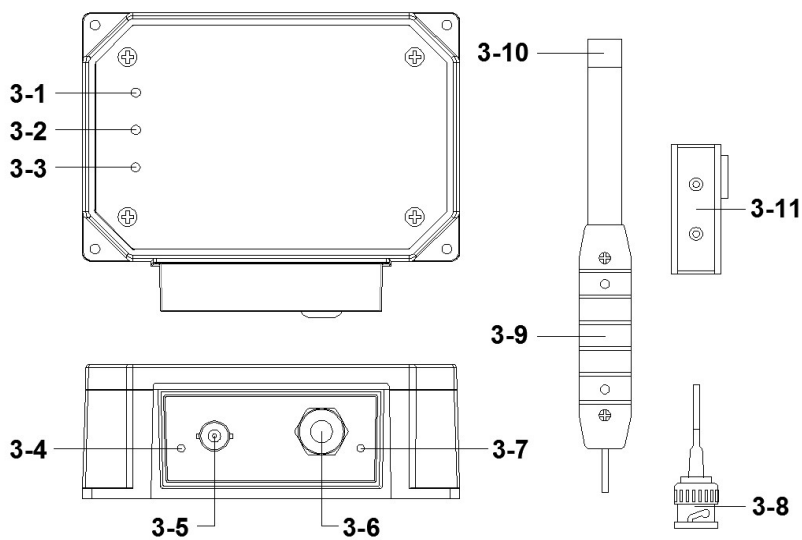

Fig. 1
- (1).Sound level probe Cable BNC Plug" Fig1 3-8 " connect to Sound level Transmitter Input BNC Socket " Fig1 3-5 " .
- (2).Then to do sound level measurement ,at the same time the measure value will transing to DC mA current and output to mA output socket.